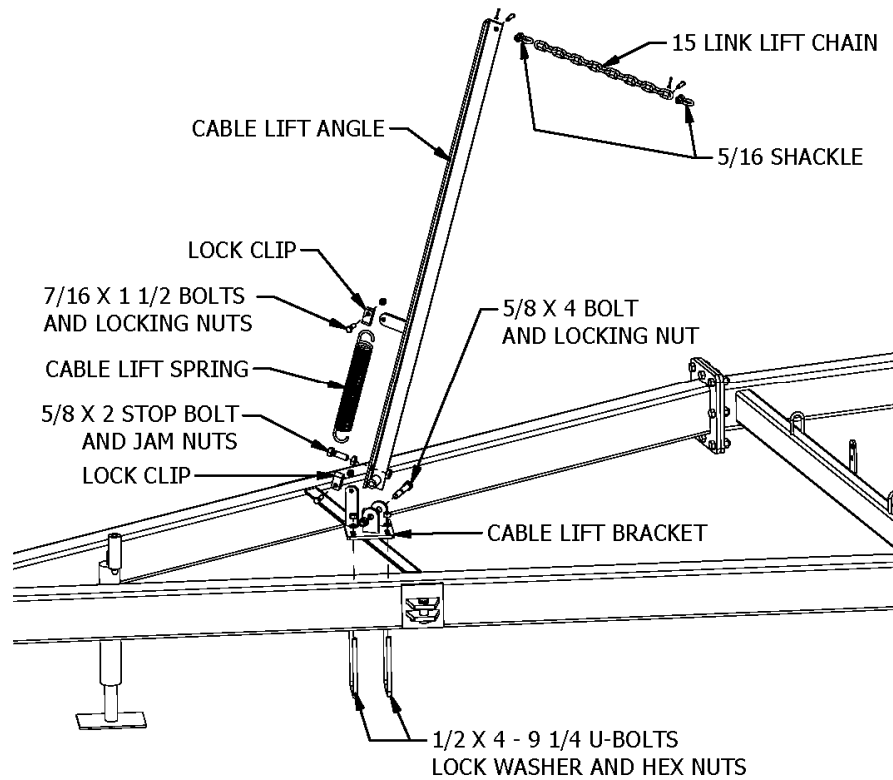

Figure 22
1. Bolt the cable lift bracket to the A-Frame just ahead of the wing cable bracket located on the side of the A-Frame. Refer to Figure 22. Use two $1\frac{1}{2}$ x 4" x $7\frac{1}{4}$ " U-bolts, lock washers, and hex nuts. Do *not* tighten yet. Note: There is a left hand and right hand assembly.